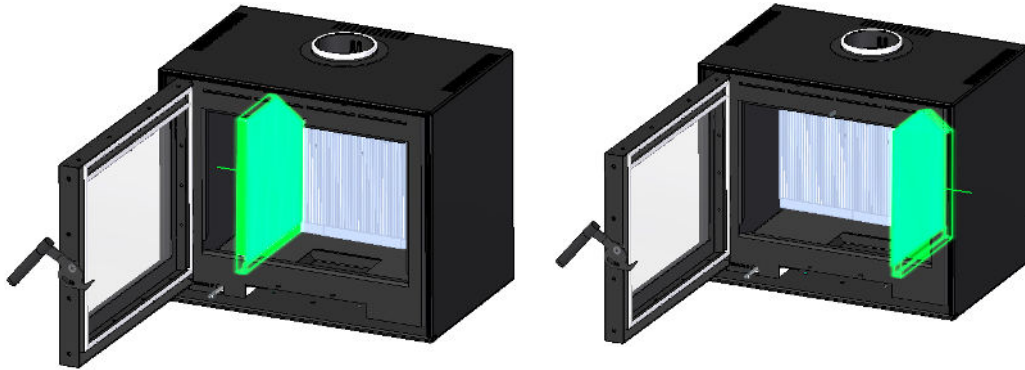

Figure 16 – Remove of the thermotote sides of the equipment
4. Remove the 2 pieces from the sides, moving to the center of the machine and then to the outside of the machine, see Figure 16.